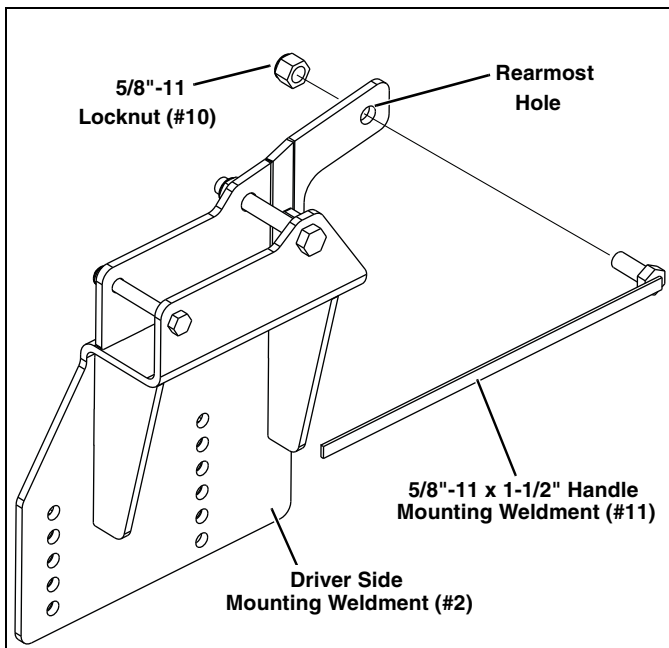

Figure 4
6. Use the rearmost hole in the Driver Side Mounting Weldment (#2) as a template. Mark, center punch, and drill a hole to 21/32". Slide a 5/8"-11 x 1-1/2" Handle Bolt Weldment (#11) into the frame and drilled hole. Secure with a 5/8"-11 Locknut (#10). (See Figure 4.)